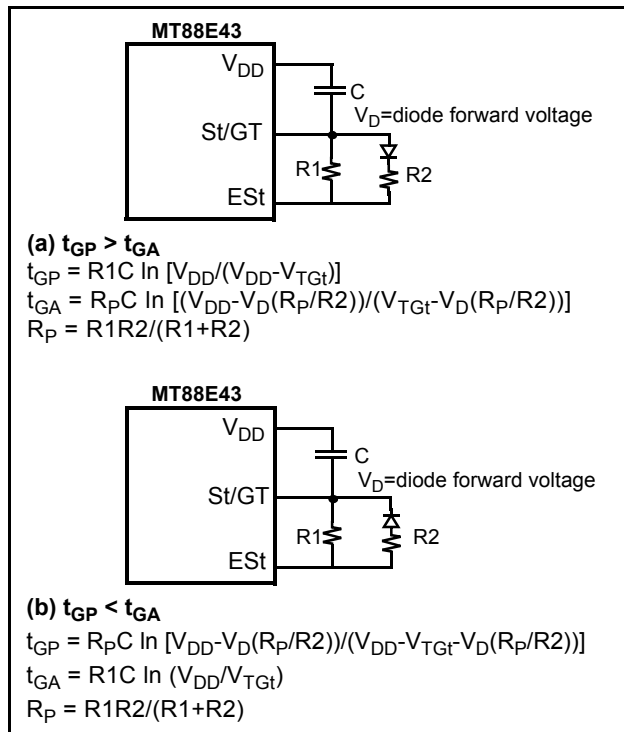
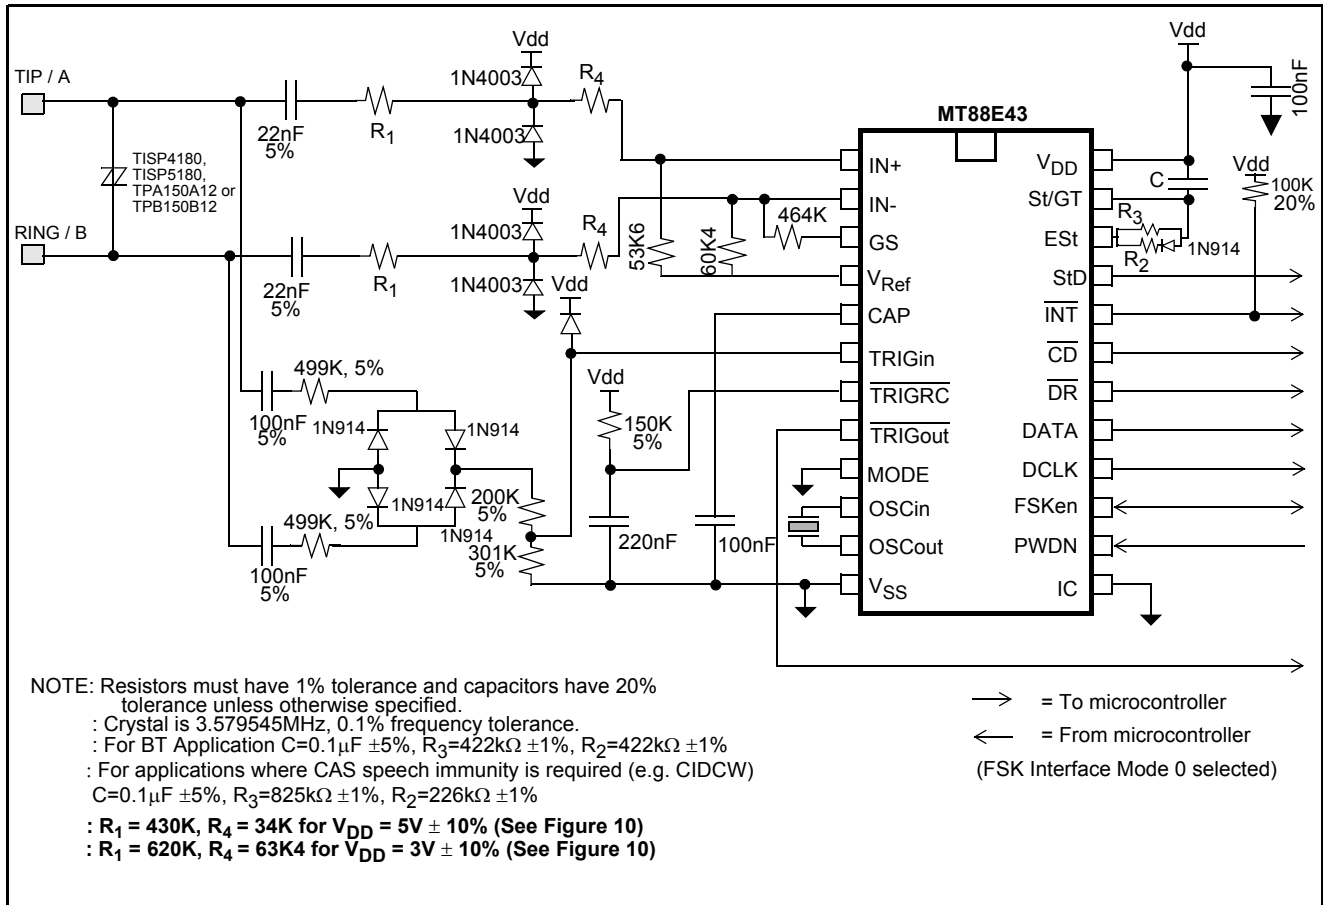
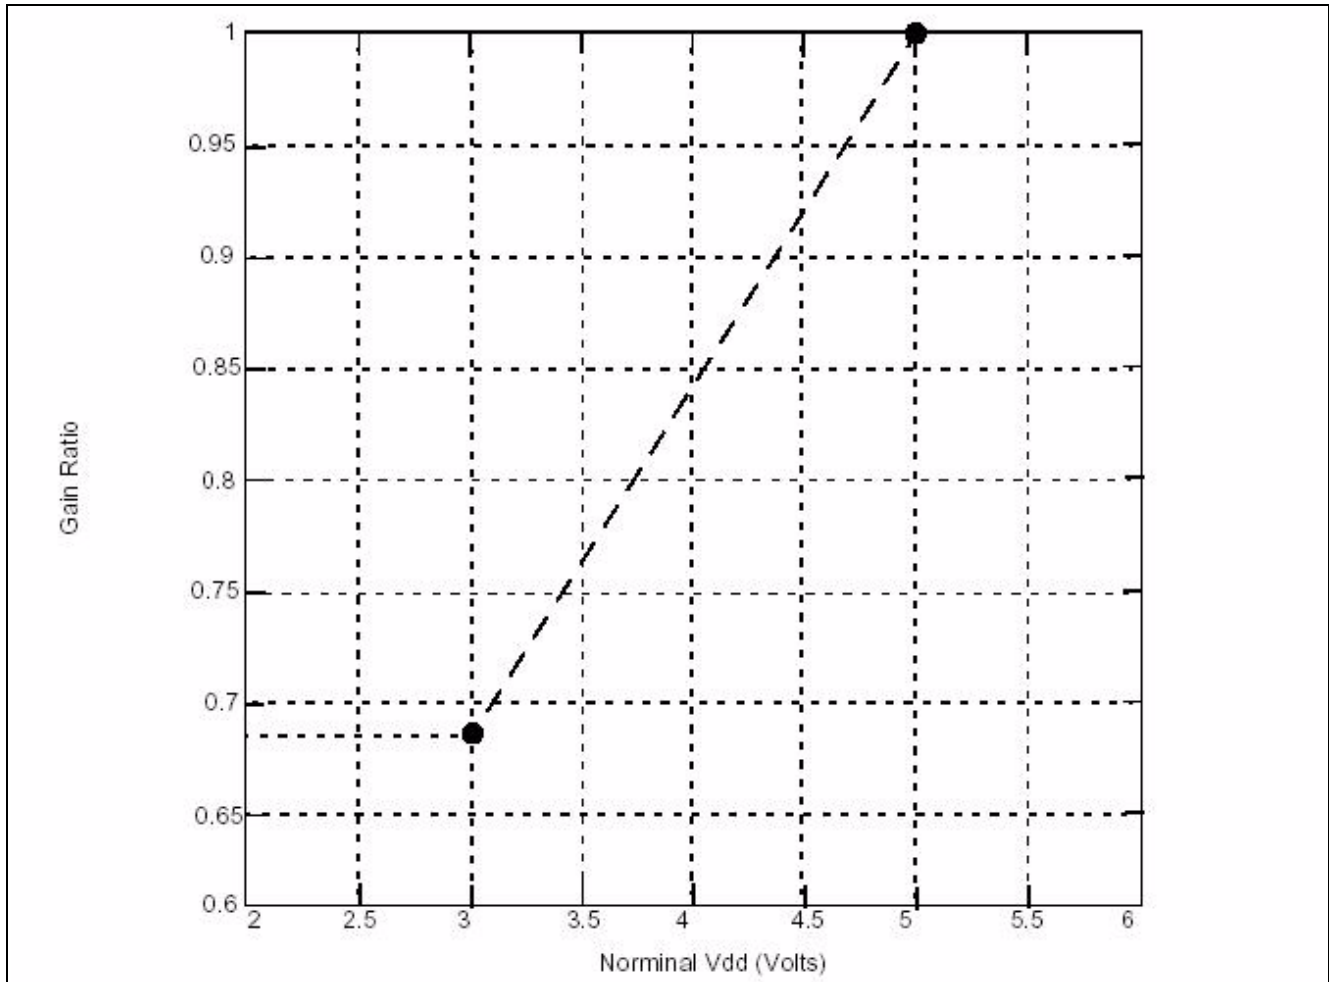

Figure 5 - Guard Time Circuits with Unequal Times
Figure 9 - Application Circuit
Figure 10 - Gain Ratio as a function of Nominal Vdd
BT specifies that the idle state tone alert signal recognition time should not be less than 20 ms when both tones are used for detection. That is, both tones must be detected together for at least 20 ms before the signal can be declared valid. This requirement can be met by setting the t_{GP} (refer to Figure 5) to at least 20 ms.
BT also specifies that the TE is required to apply a D.C. wetting pulse and an AC load 15-25 ms after the end of the alerting signal. If $t_{ABS}=t_{DA}+t_{GA}$ is 15 to 25 ms, the D.C. current wetting pulse and the A.C. load can both be applied at the falling edge of StD. The maximum t_{DA} is 8ms so t_{GA} should be 15-17 ms. Therefore, t_{GP} must be greater than t_{GA} . Figure 5(a) shows a possible implementation. The values in Figures 9 and 11 ($R2=R3=422K$, $C=0.1\mu F$) will meet the BT timing requirements.
The circuits shown in Figures 9 and 11 are application circuits for the MT88E43. As supply voltage (V_{DD}) is decreased, the threshold of the device's tone and FSK detectors will be reduced. Therefore, to meet the BT or Bellcore tone reject level requirements the gain of the internal opamp should be reduced according to the graph in Figure 10. For example when V_{DD}=5V (+/- 10%), R₁ should equal 430 kΩ and R₄ should equal 34 kΩ; and if V_{DD}=3V (+/- 10%) R₁ should equal 620 kΩ and R₄ should equal 63.4 kΩ. Resistors R₁ and R₄ are shown in Figures 9 and 11.
The circuit shown in Figure 9 illustrates the use of the MT88E43 in a proprietary system that doesn't need to meet FCC, DOC, and UL approvals. It should be noted that if glitches on the tip/ring interface are of sufficient amplitude, the circuit will falsely detect these signals as ringing or line reversal.
Note: In the application circuits shown in Figures 9 and 11, the Gain Ratio of MT88E43 opamp is
- With gain setting as shown in Figure 10. Production tested at 3V ±10%, 5V ±10%.